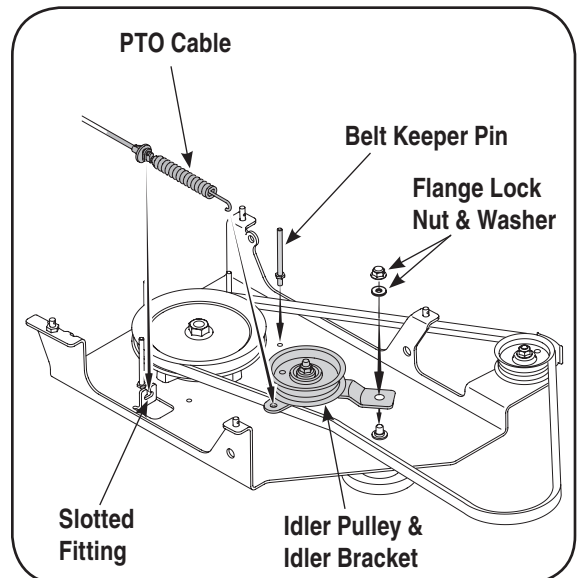

Figure 19
2. Remove the flange lock nut and flat washer as pointed out in Figure 19, leaving the spacer underneath it in place. Mount the idler pulley (756-0627D) and idler bracket (783-1291) from the loose parts included in this carton. Replace the nut and washer.
3. Attach the PTO cable to the idler bracket, then fit the cable into the slotted fitting as seen in Figure 19.
6. Install the additional belt keeper pin and hardware included with the loose parts in this carton. See Figure 19 for belt keeper location placement.